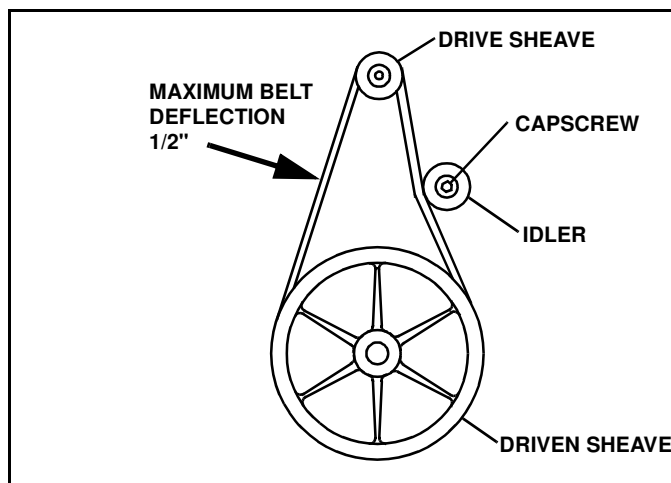

Figure 2-3
4. Loosen cap screw/nut retaining belt tensioner to crossbrace. (See Figure 2-3)
5. Adjust idler until belt opposite idler has 1/2 inch deflection. (See Figure 2-3)